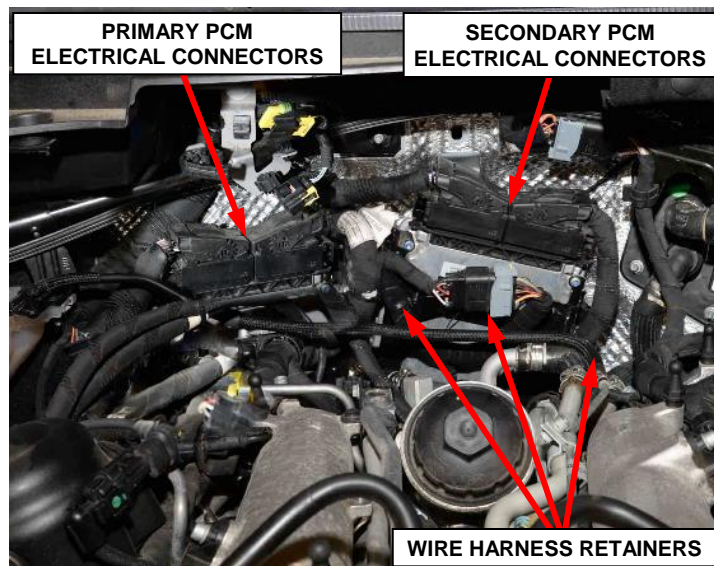

Figure 18 – PCM Electrical Connections
41. Release the wiring from the retaining clips and cable tie on the secondary PCM bracket then position the wiring aside to access the PCM electrical connections (Figure 18).
42. Disconnect the electrical connectors from the secondary PCM (Figure 18).
43. Disconnect the electrical connectors from the primary PCM (Figure 18).
9. Connect the electrical connections to the primary PCM (Figure 18).
10. Connect the electrical connections to the secondary PCM (Figure 18).
11. Install the wiring to the retaining clips and secure the cable tie on the secondary PCM bracket (Figure 18).